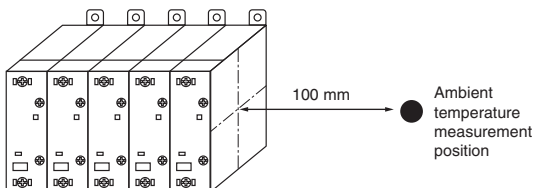
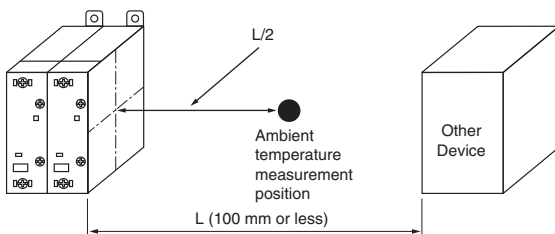
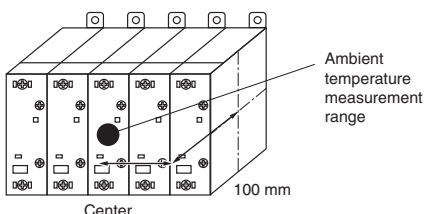

Figure 1: Basic Measurement Position for Ambient Temperature
Figure 2: Measurement Position when a Duct or Other Device is Present
Figure 3: Measurement Position when Side Temperature Cannot be Measured
- (1) Measure the ambient temperature under the power application conditions that will produce the highest temperature in the control panel and after the ambient temperature has become saturated.
- (2) Refer to Figure 1 for the measurement position. If there is a duct or other equipment within the measurement distance of 100 mm, refer to Figure 2. If the side temperature cannot be measured, refer to Figure 3.